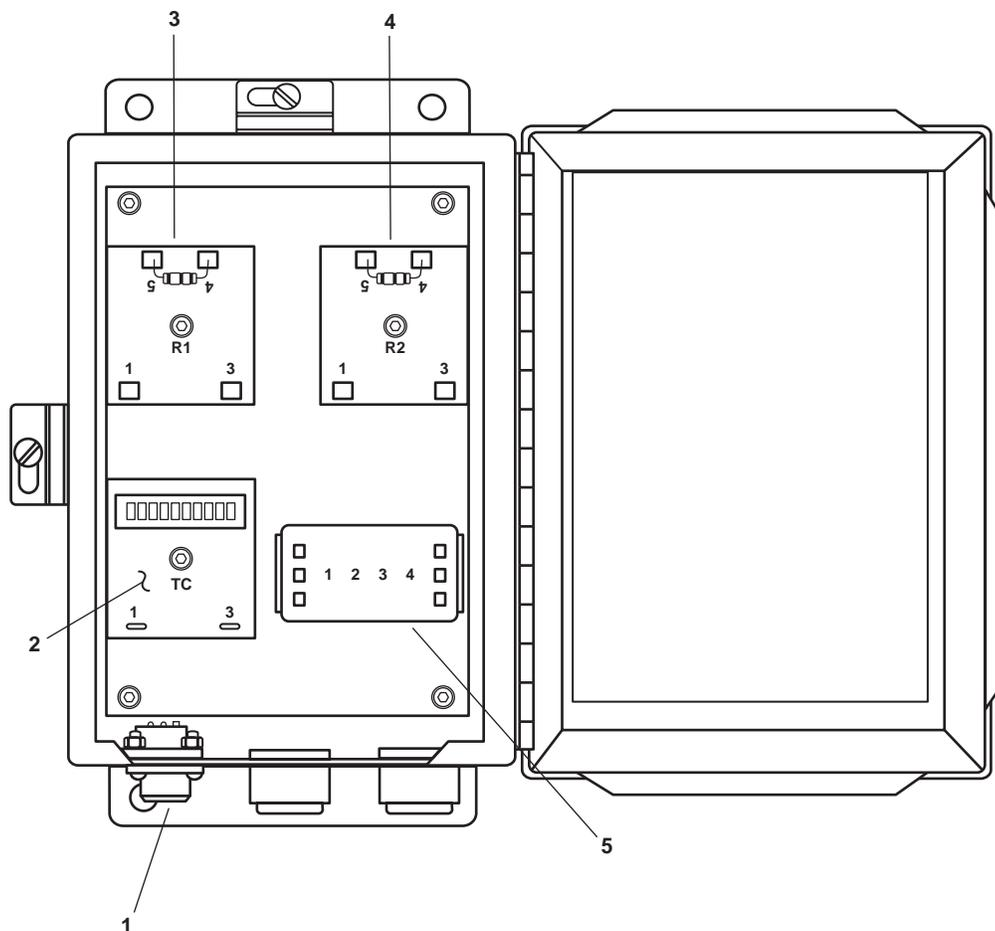

Figure 9. Remote Relay Assembly
This assembly is the electrical control interface between the sampling/sensor assembly and the diverter solenoid valve. The cable from the sampling/sensor assembly (A1P3) connects to receptacle A3P1 (figure 9, item 1) on the bottom of the enclosure and provides alarm signals (120 Vac, single-phase, 60 Hz) for its operation. The remote relay assembly contains the following components:
Timer (figure 9, item 2). The timer is a solid state component that provides a time delay (60-second) before the alarm signal from the sampling/sensor assembly activates the two solid state relays. This time delay allows the sampling/sensor assembly to verify that four consecutive samples have oil content below the selected alarm limit before the diverter solenoid valve actuates, thereby preventing illegal overboard discharge and unnecessary valve wear caused by frequent or sporadic alarm signals. Although this timer is adjustable, it should always be set for a 60-second delay.
Solid State Relays (figure 9, items 3 and 4). Two solid state relays are contained in the remote relay assembly. One relay is used to close the 120 Vac diverter solenoid valve circuit. After receiving an alarm signal from the timer, this Normally Open (NO) relay closes after the 60-second delay described above. The other relay is a spare, available for auxiliary use.
Terminal Strip (figure 9, item 5). This strip provides the electrical connection points between the relays and the diverter solenoid valve circuit.